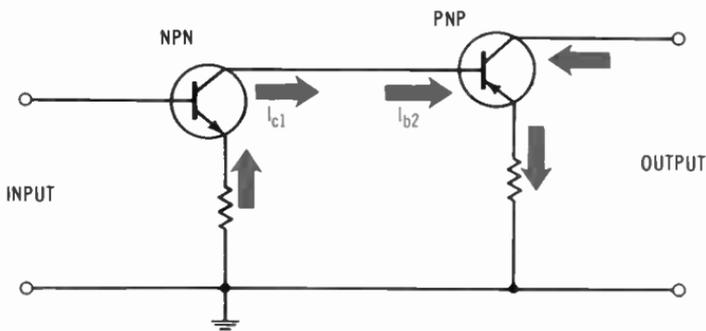

Fig. 6-11. Complementary dc-amplifier circuit.
- Q6-30.** In the circuit in Fig. 6-11, what is the relationship between the base current of the second stage and the collector current of the first stage?